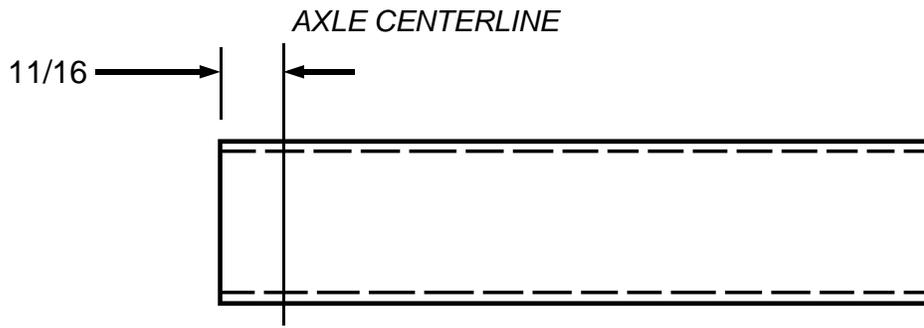
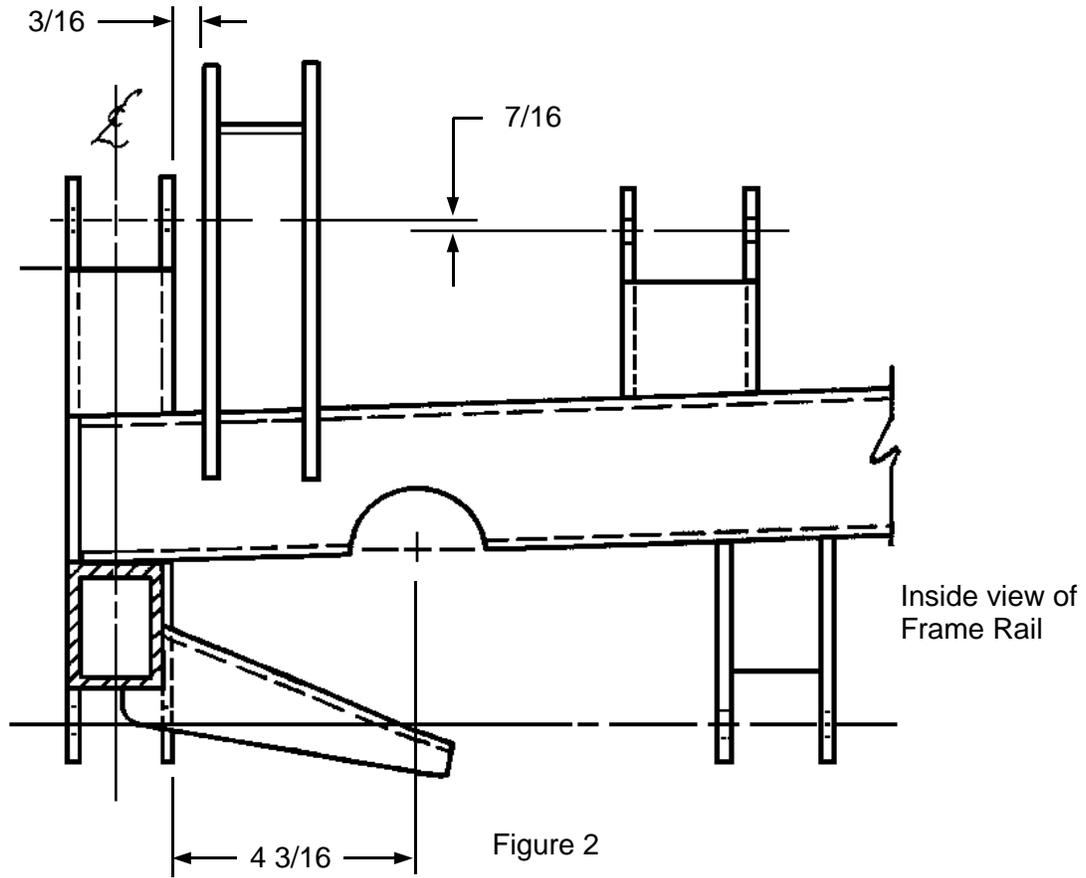

Figure 1
Figure 2
3. Locate your axle centerline markings. Make a new mark 11/16" forward of the axle centerline mark . See Figure 1. This mark is to be a cut line, scribed around the rails exactly vertical to the ground (not necessarily square to the rails) and straight across the front from rail to rail. The crossmember has front plates on it which will cap the fronts of the rails, so you can see how the rails need to be trimmed. It is important that the crossmember be vertical, and not necessarily square to the rails themselves. This has to do with the caster and anti-dive. See Figure 2.
4. The crossmember can be trial fitted onto the rails now. The plates on the crossmember will cap the ends of the rails, and the rails should also fit up against the side uprights. If not, some fitting may be required. Once the crossmember is fitted correctly, again making sure that it is vertical, it can be tack welded in place. See Figure 2. It is not recommended to finish weld it in place at this time. The finish welding should be done only after the entire installation is complete and all the components are installed and lined up. Again, the old saying "measure twice, weld once" is the best way to success for your installation.
- grind/fit the mounts to the underside of the rails. Again, only tack weld them in place. See Figure 2. Remove the tie bar when done.
6. The upper control arm rear mounts are next. Again the upper control arms and tie bar become temporary alignment fixtures. Installation of the upper arms is slightly different, however, due to the adjustable ends. The spindles should be temporarily installed onto the lower control arms and the upper arm ball joints then slipped into the spindles. With the lower arms level, adjust the front adjusters in the upper arms to bring the camber of the spindles to 0° . Snug up the bolts on the front adjusters to align the front tubes straight out from the crossmember. This should give you 1° of caster, also. Now you can position the rear adjusters. They are set using the upper arm temporary tie bar to 26-1/4", which is the same spread as the front adjusters, but are located lower than the fronts by 7/16". See Figure 2 & 3. This rearward tilt of the upper arms is the anti-dive angle. A piece of threaded rod does not work here since the bolt holes in the main crossmember do not tilt downward. Bolt the tie bar onto the upper mounts and adjusters. Fit the mounts to the frame, keeping them vertical and spread dimension correct when fitting them. Remove the tie bar when done.
7. Next install the coil-over rocker mounts. Position them back 3/16" from the front upper arm mounts, as shown in Figure 2. Again using the temporary rocker mount tie bar, space them apart 11-3/16" as shown in Figure 4 and fit them to the frame. Once they are fitted, then tack weld them in place.
8. The C-Notch in the frame is the last part to do. Carefully layout the sides of the frame as shown in Figure 2. Again, it is better to cut a little at a time and grind a little to fit than to cut too much away. After the notch is cut out, install the rack and slip the C-notch pieces in to check the clearance around the rack boots. A minimum of 1/8" clearance around the rack boots should be provided as the boots move around slightly as the suspension travels.